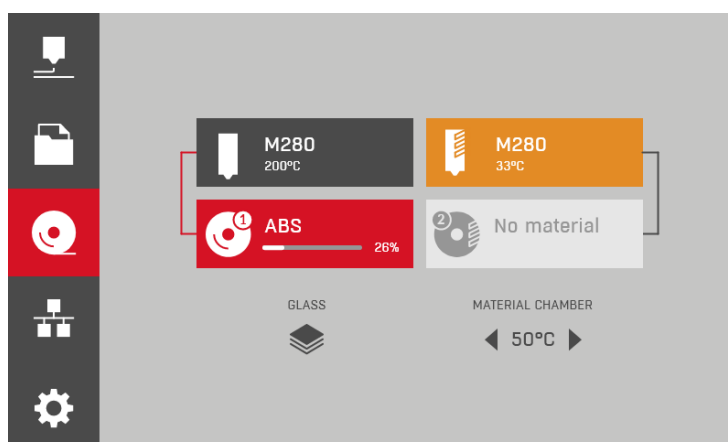
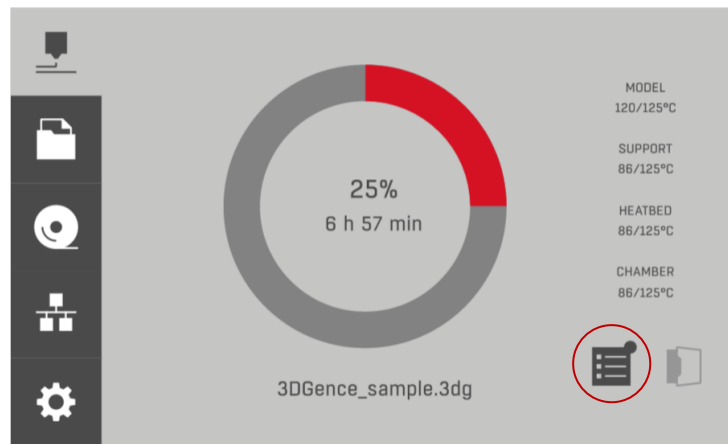

Fig. 64 Screen with sample status highlighting
Fig. 65 New information in notification screen (grey dot)
Various colours may appear on the sidebar of the menu as well as in individual screens indicating a change in the device status (Fig. 64). Additionally, on the notification button on the main screen, dots in three different colours (grey, orange, red) are displayed, which also provide information about the device status change (Fig. 65). The different colours that may appear in the printer menu have the following meanings.
- Dark grey – indicates that the option is active and can be selected. If a grey dot is displayed on the notification button (Fig. 65), it means that there is new information there, which is neither a warning nor an error. The grey dot on the notification screen may indicate that material has been loaded correctly or the start or end of the printing process.